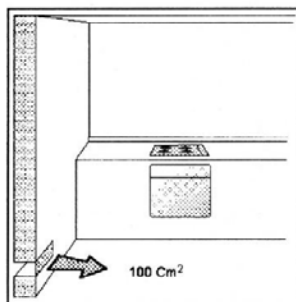
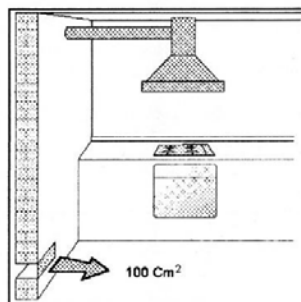

Fig.4
Fig.5A
**NOTE:** The use of a gas cooking appliance produces heat and humidity in the place where it is installed. Therefore you need to ensure that the place is well ventilated, keeping clear the natural ventilation openings (Fig. 4 ) and using the mechanical ventilation device/ flue or electric fan ( Fig. 5A and 5B ). Intensive or prolonged use of the appliance may require additional entilation such as by opening a window or an increased ventilation efficiency obtained by increasing the power of the echanical ventilators if it is present.